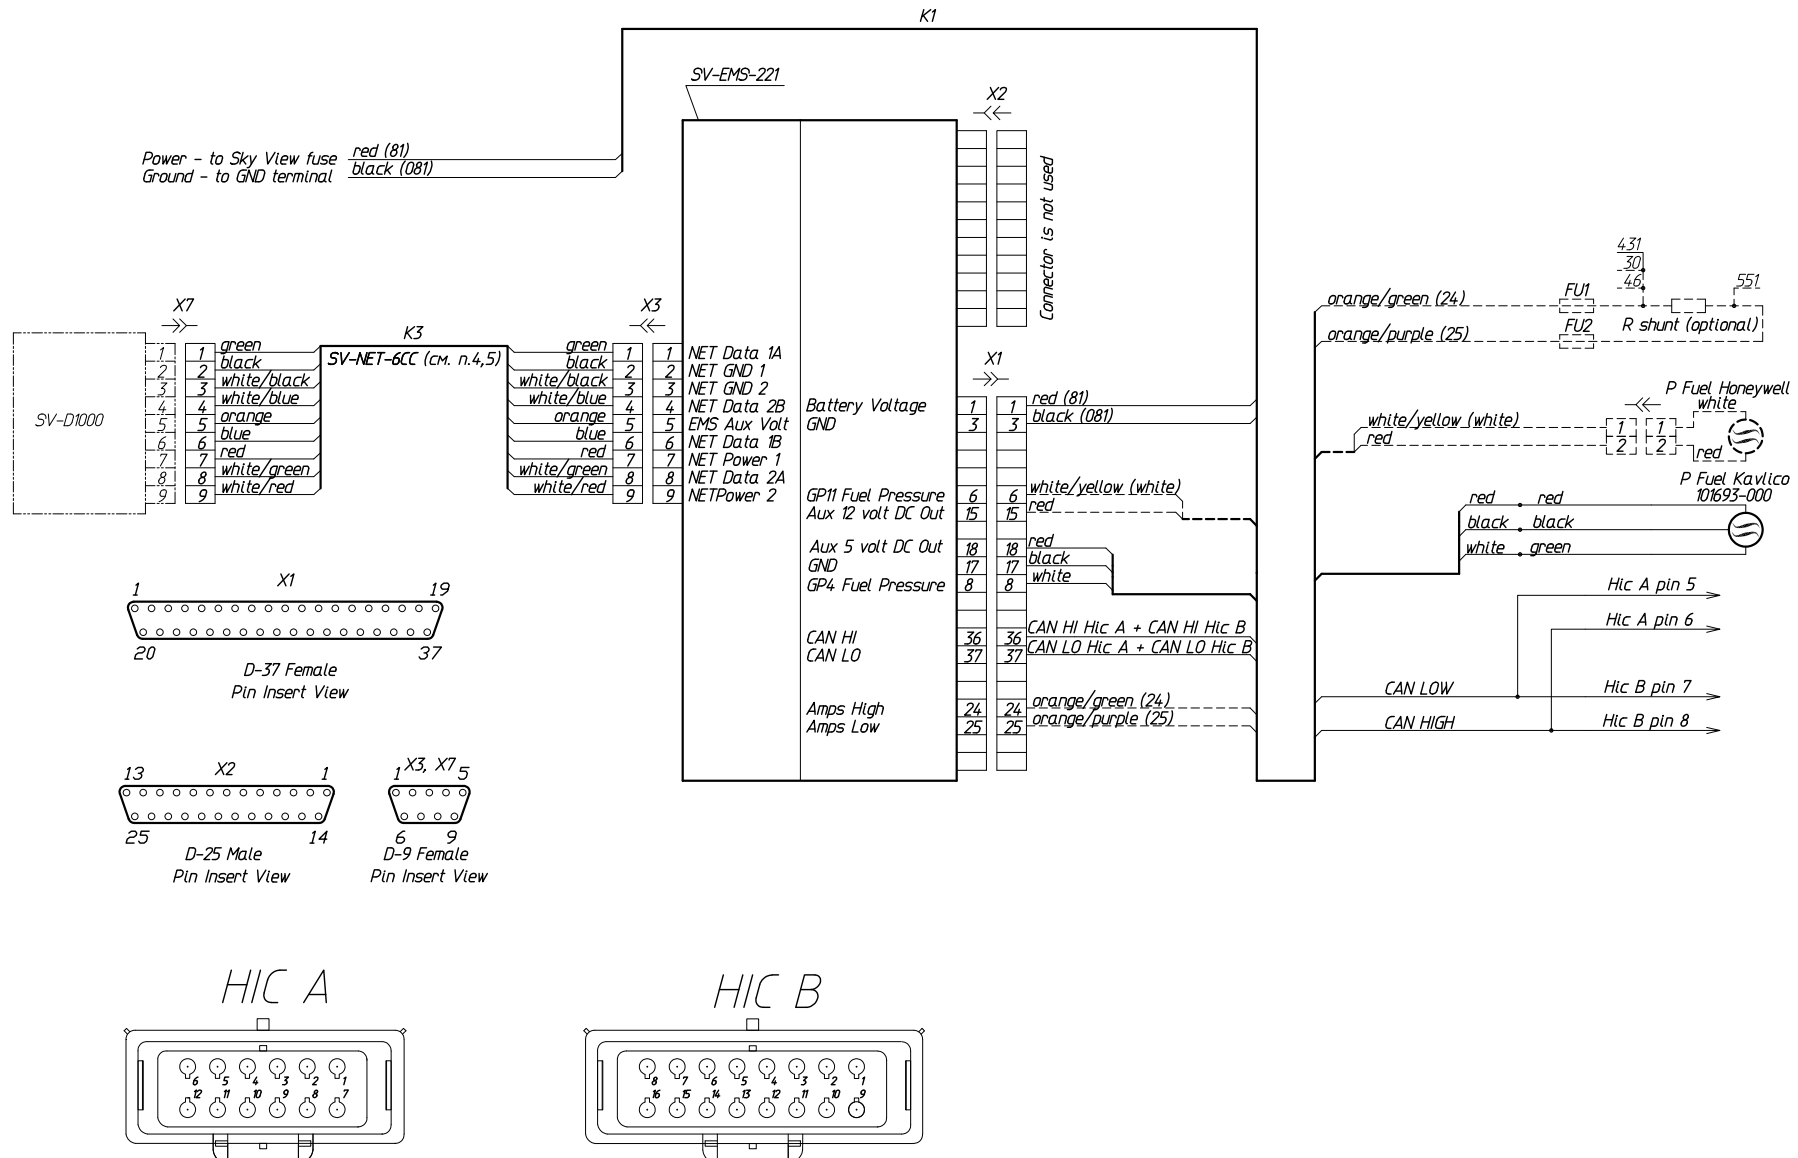

Fig. 14. Wiring diagram of installation of the SV-EMS-221 engine instrument
4. Disconnect the full and static pressure lines at their joints (4, see **Fig.14** at page **39**).